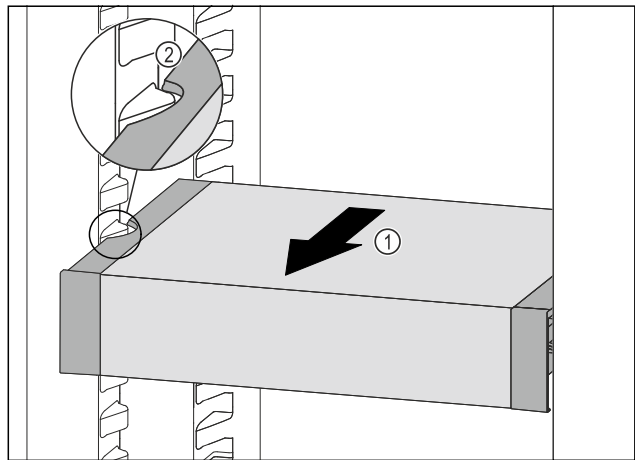

Fig. 87
- ▶ Pull VarioSafe forwards Fig. 87 (1) until the recesses in the side of the VarioSafe are at the level of the support rib in the fridge section. Fig. 87 (2)